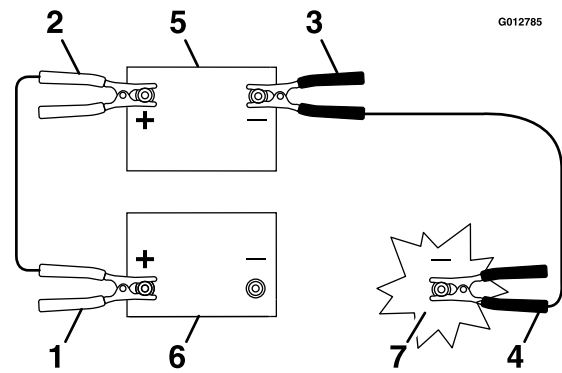

Figure 60
5. Connect the positive (+) cable to the positive (+) terminal of the discharged battery that is wired to the starter or solenoid as shown in Figure 60.